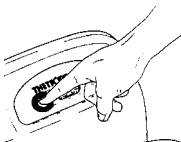

Fig. 9a
- 9a. C-200 CWE only: Before using the toilet it is recommended to flush some water into the bowl by pressing and releasing the flush button (fig. 9a).